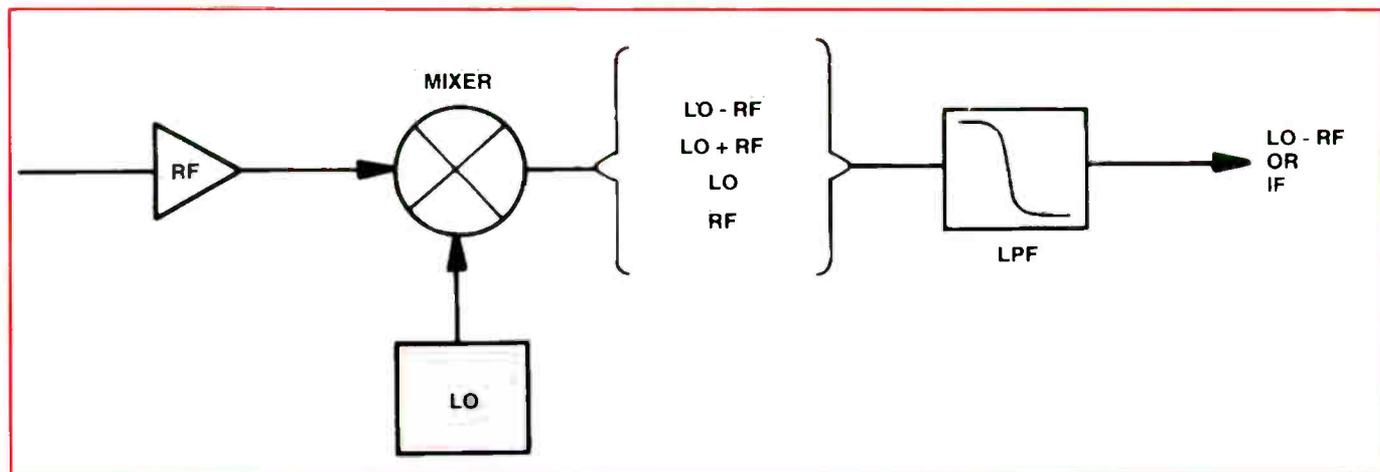

Figure 1: In the heterodyning process, the RF signal is mixed with a signal from a local oscillator in a non-linear device to produce the IF frequency.
In the heterodyning process, the signal from a local oscillator (LO) in the set is mixed with or "beat" against the incoming RF signal in a stage known as a mixer (see Figure 1). The actual mixing takes place in a non-linear device. In a linear device such as a resistor, changes in voltage across the device are accompanied by directly proportionate changes in current through the device, so no heterodyning can take place.